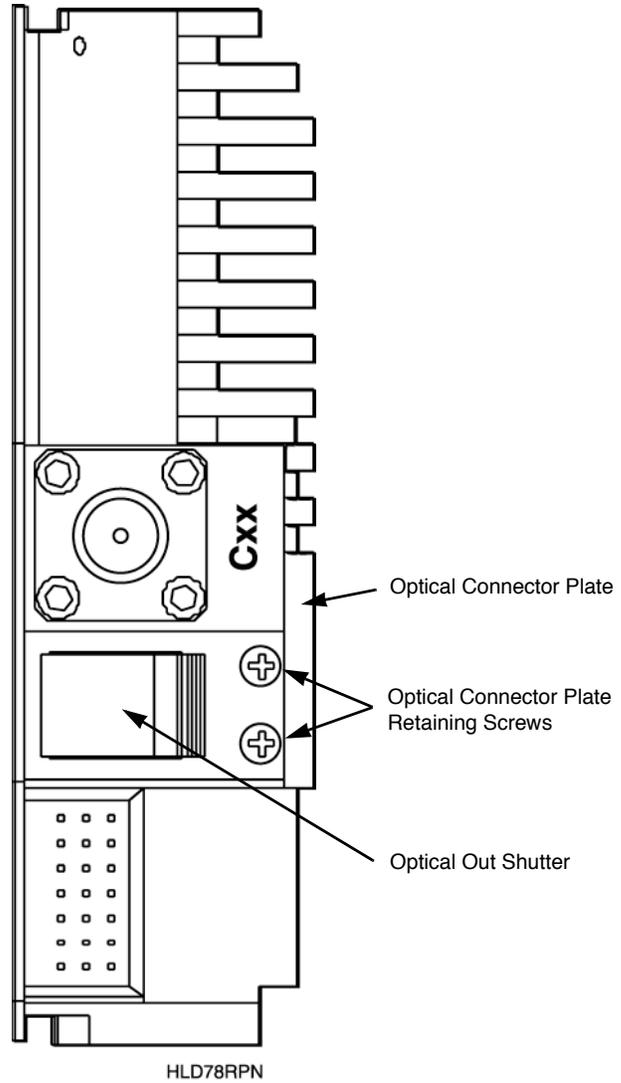

Figure 5-1. HLD 7105T optical connector plate
2. Remove the optical connector plate, including the Optical Out shutter, by unscrewing the two screws, as shown in Figure 5-1 on page 5-3.